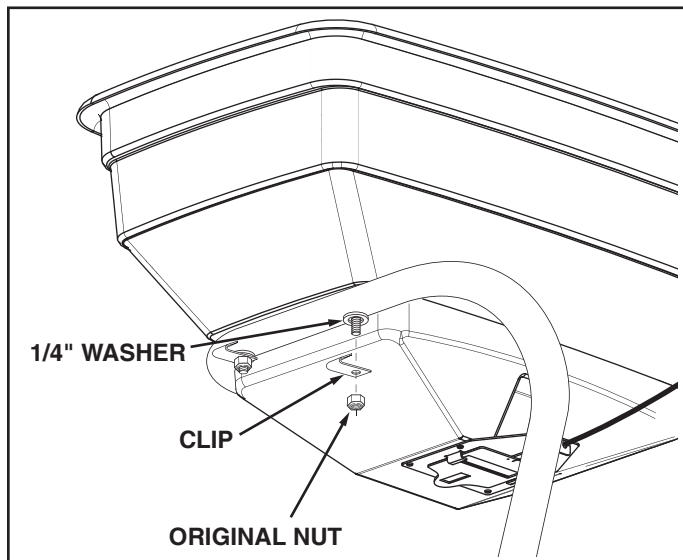

Figure 1
1. Remove the nuts from the six bolts in the bottom of the hopper. Leave the bolts in place. See figure 1.
2. Assemble a 1/4" washer and a clip (curved side facing up) onto each bolt and secure them with the original nuts you removed. See figure 1.